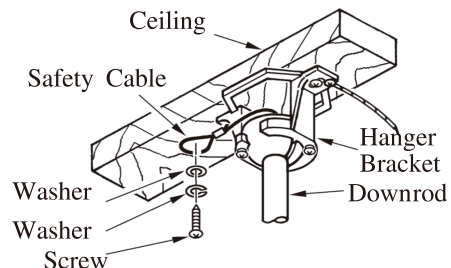

FIG.5
3. Install the safety cable into the building structure. (See fig.5)